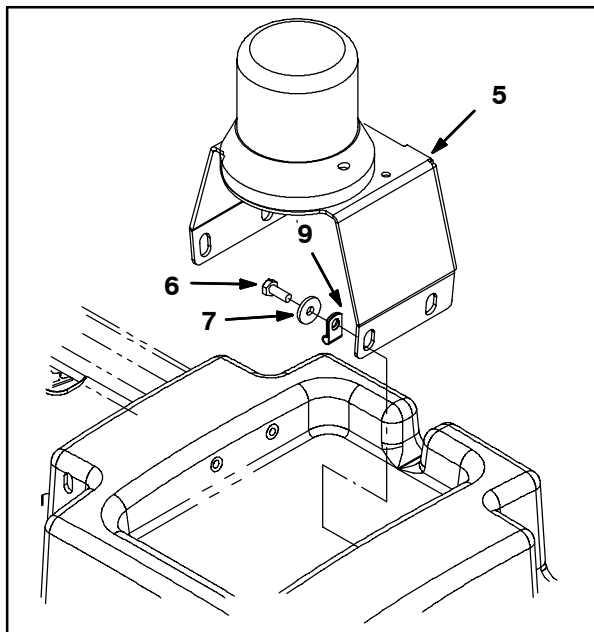

FIG. 7
7. Use a hex screw (6) and flat washer (7) to install the cable clamp (9) on the warning/backup harness (8) onto light support bracket (5) and solution tank. Refer to Fig. 7.